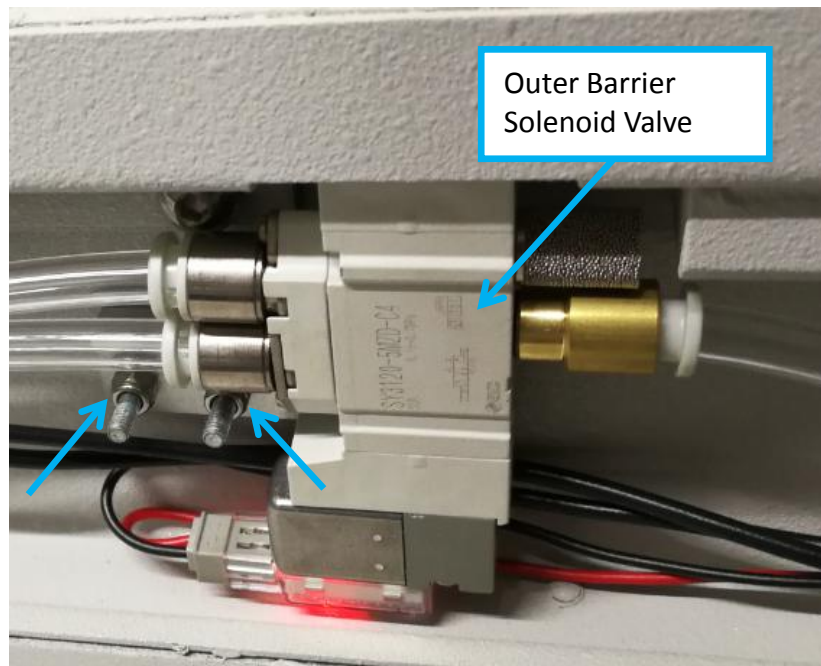

Figure 13
15. Assemble entire Outer Barrier Valve assembly at Outer Barrier. Tighten 2 x Nut. May refer to Figure 13.